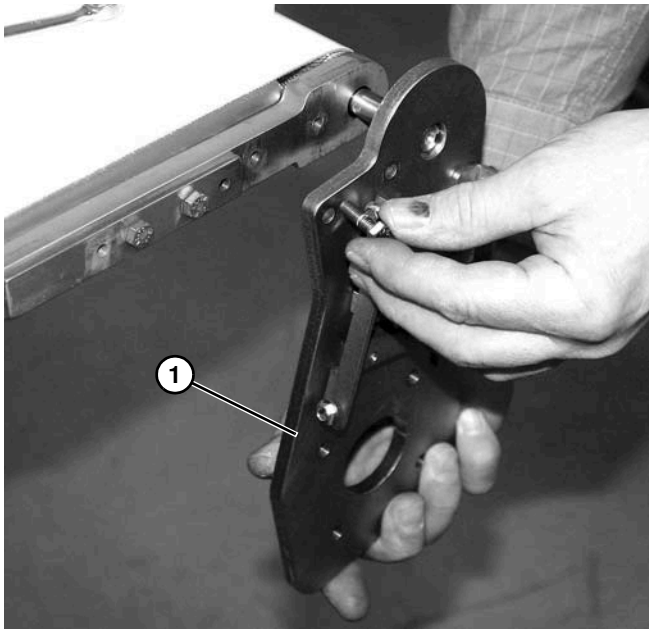
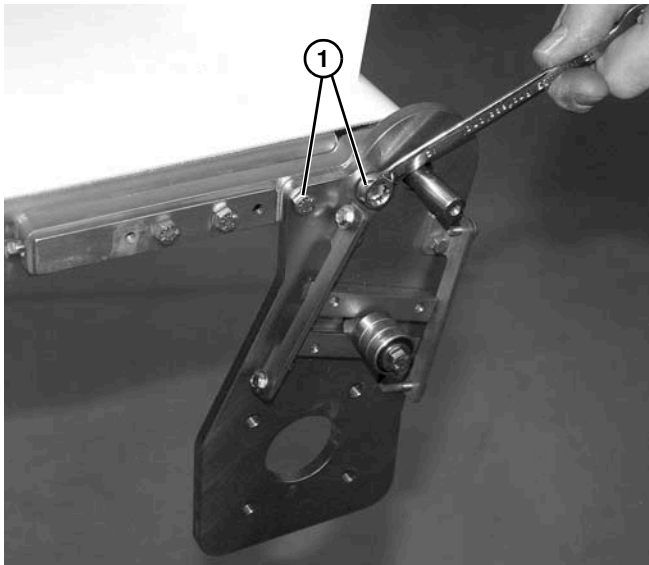

Figure 18
Figure 19
1. Install mounting plate (**Figure 18, item 1**) onto drive end of conveyor with two screws (**Figure 19, item 1**).